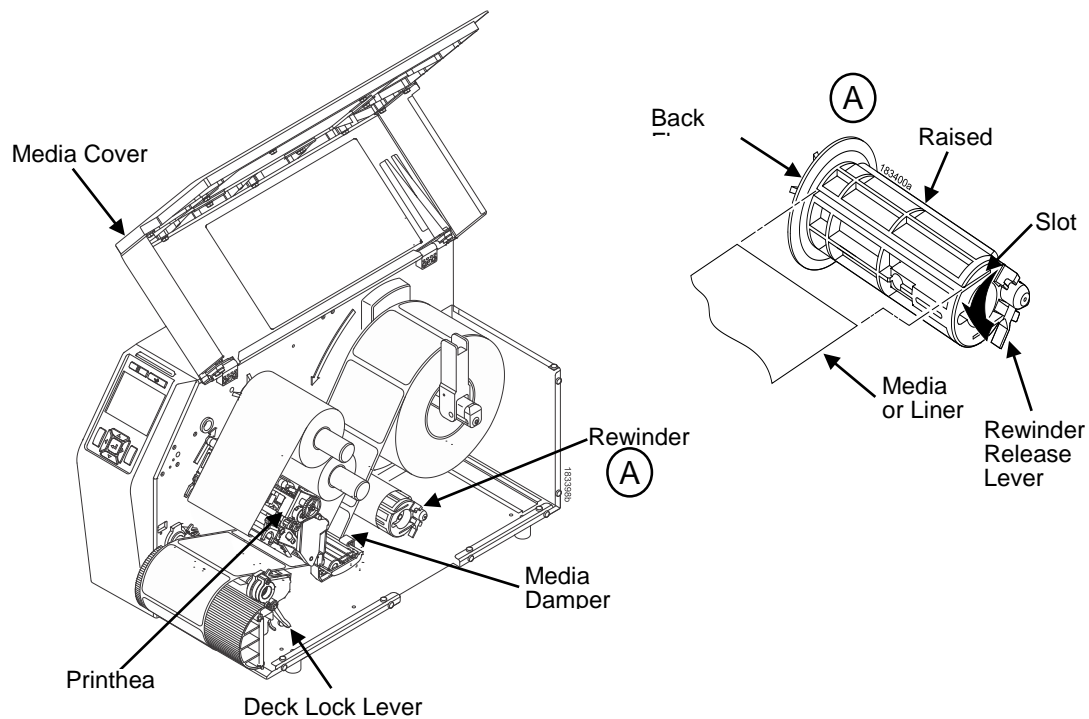

Figure 1 Loading Media
6. Slide the Media Damper Guide, ref *Figure 1 Loading Media* page 28, to the outer edge of the media.
1. Open the media cover, (ref *Figure 1 Loading Media*).